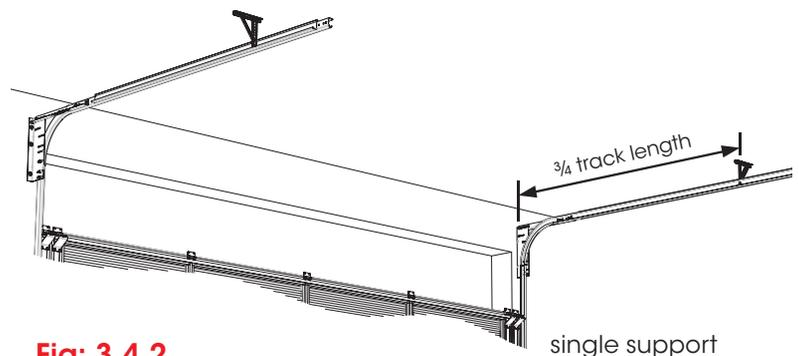
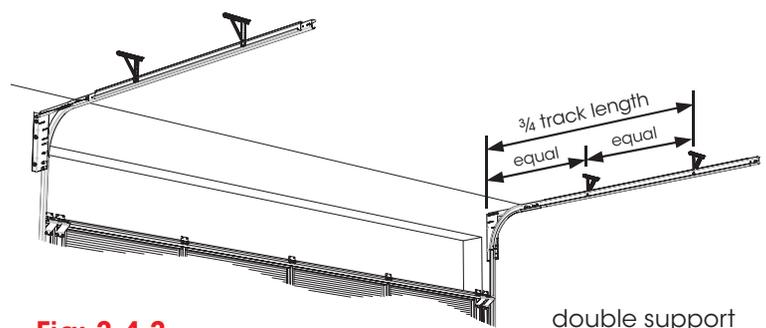

Fig: 3.4.2
Fig: 3.4.3
- Measure along the horizontal track to the desired position and find a structurally sound location to fix your support to the ceiling or side wall. Fig 3.4.2 or Fig 3.4.3.